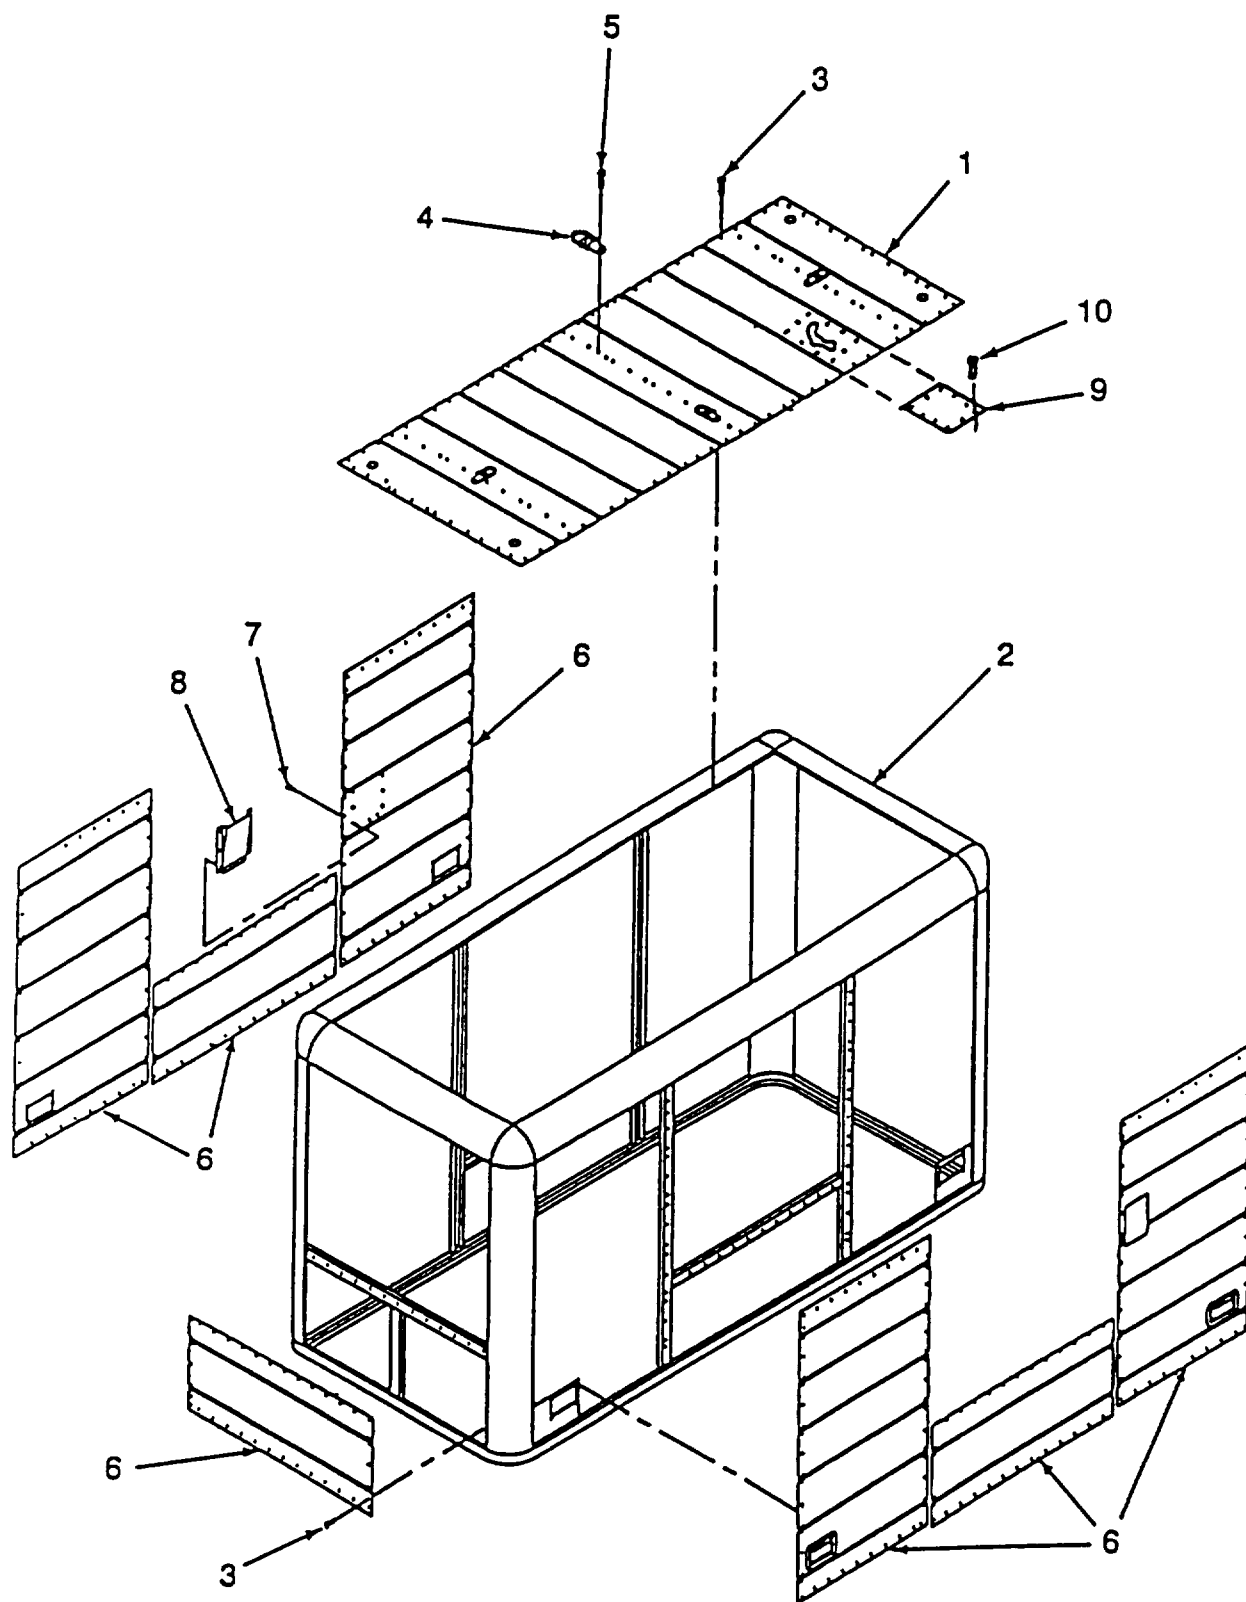

Figure 4-3. Panels
a. Removal. (Refer to Figure 4-3).
- (1) Remove top panel (1) from enclosure frame (2) by drilling out all rivets (3) using electric drill with 3/16" drill bit.
- (2) Remove four latch retainer D-rings (4) by drilling out rivets (5).
- (3) Remove all other panels (6) by drilling out rivets (7) around outside edges of panels.
- (4) Remove storage pocket (8) by drilling out rivets (7)..